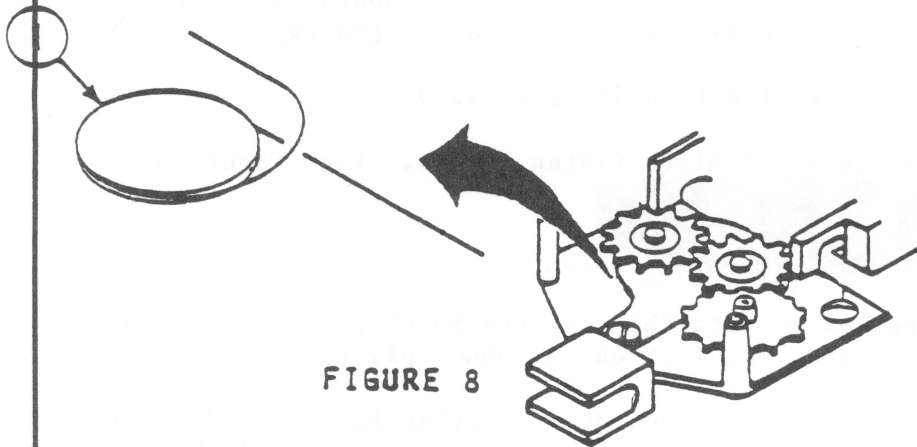

FIGURE 8
2. Work the wire around the pulley gear as shown. (See Figure 8, #1.)